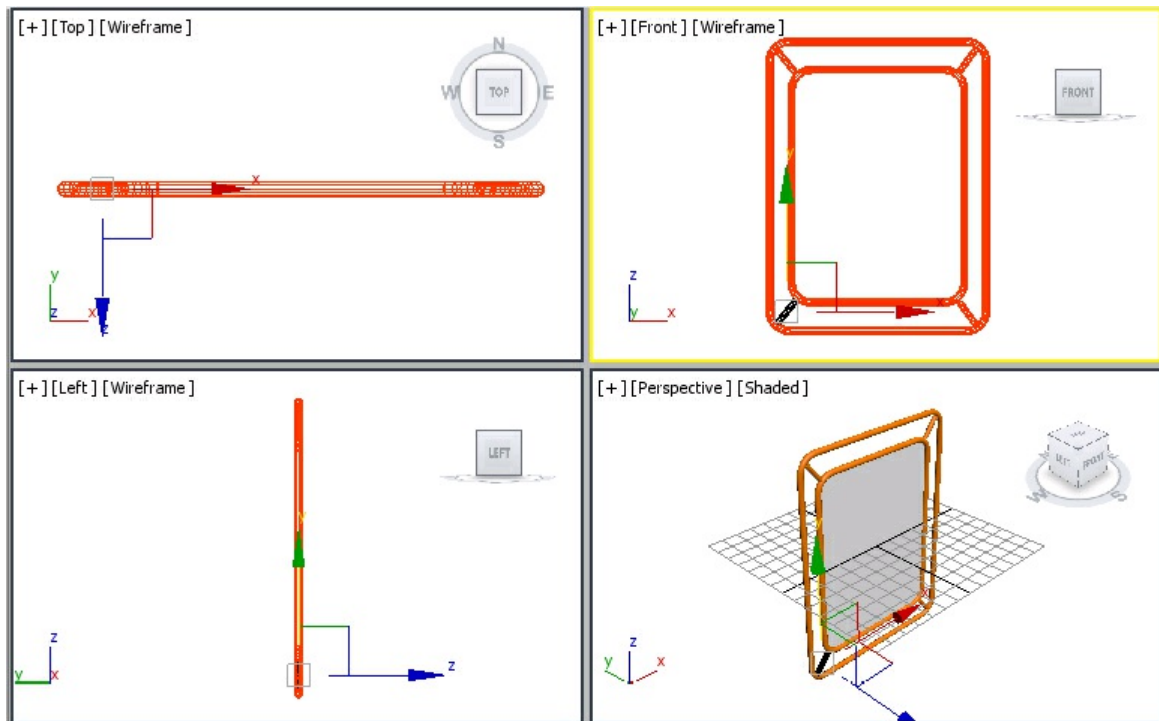

Figure 5-62 All joints aligned in the viewports
5. Create three copies of *joint1*. Now, align the copied joints in the viewports using the **Select and Rotate** and **Select and Move** tools, as shown in Figure 5-62.